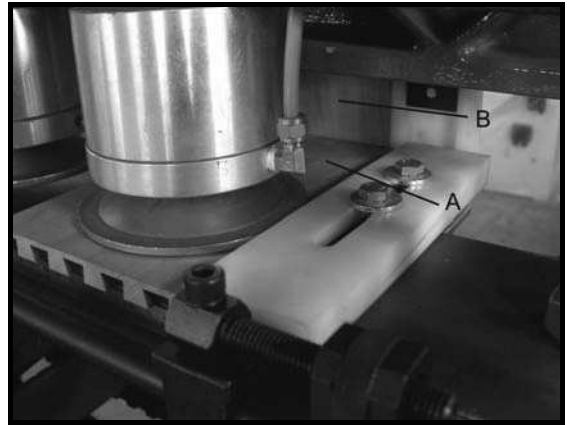

Figure 25
6. Place the drawer BACK on the horizontal table, and against the horizontal fence. Slide it flush against the RIGHT SIDE workpiece. The bottom groove on the BACK should face downward and opposite the fence. See Figure 25.